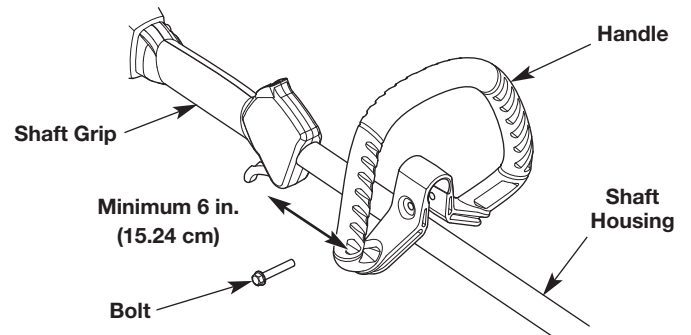

Fig. 2
1. Push the handle down onto the shaft housing (Fig. 2). The bolt hole in the handle should be to the right.
2. Insert the bolt into the bolt hole and push it through (Fig. 2). Tighten the bolt with a 3/8" socket, but do not tighten the bolt completely.
3. While holding the unit in the operating position (Fig. 11), move the handle to the location that provides the best grip. Place it a minimum of 6 inches (15.24 cm) from the end of the shaft grip (Fig. 2).
1. Loosen the bolt with a 3/8" socket (Fig. 2).
2. While holding the unit in the operating position (Fig. 11), move the handle to the location that provides the best grip. Place it a minimum of 6 inches (15.24 cm) from the end of the shaft grip (Fig. 2).